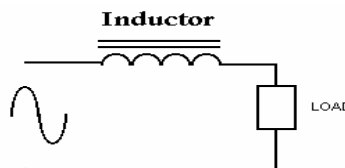

Figure 3
**Putting it all together.** Imagine the ferroresonant transformer passing input power to the load through an inductor, the magnetic shunts (Figure 3). As the load increases, the effects of leakage inductance becomes progressively more predominant within the overall circuit. The reaction of the circuit can be analyzed as a simple R/L circuit. The resultant phase shift is dependent upon the ratio of the load and